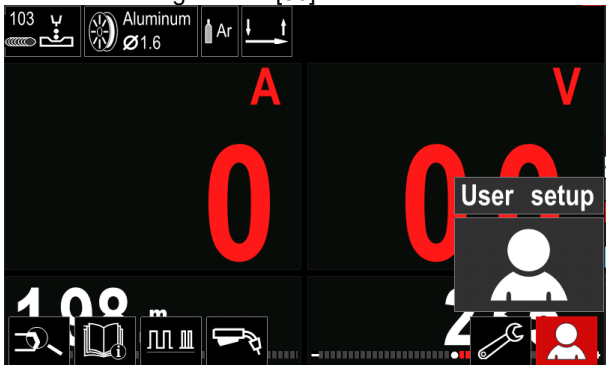

Figure 13
- Access to the User Setup (see the Figure 13).